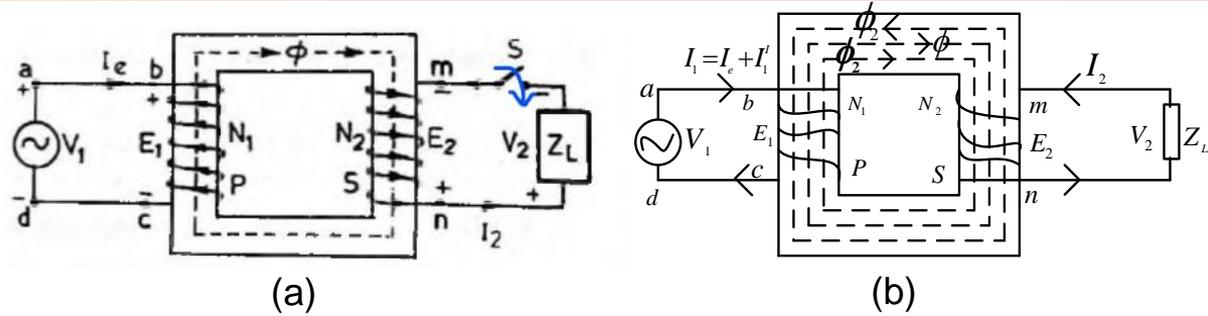

Fig. 5 (a) and (b), Ideal transformer under load
- In Fig. 5, the secondary mmf  $F_2$  being opposite to  $\phi$  tends to reduce the alternating mutual flux  $\phi$ .
- Thus the primary draws more current  $I_1^l$  from the source to neutralize the demagnetizing effect of  $F_2$  such that  $I_1^l N_1 = I_2 N_2$  (9) i.e. compensating primary mmf  $F_1 =$  secondary mmf  $F_2$